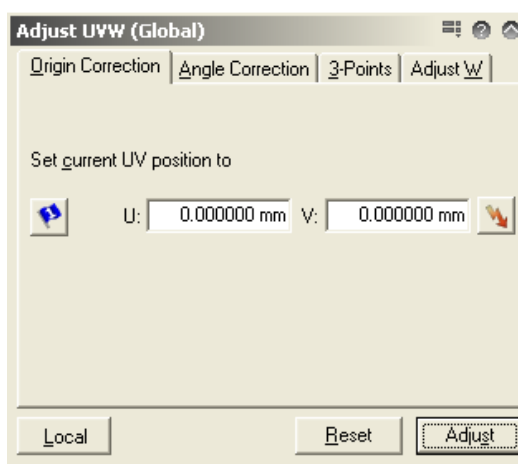

Figure 15: Origin correction.
5. Return the stage to the U,V=0,0 position for example using the 'lightning' button in the Adjust UVW tab (figure 15).